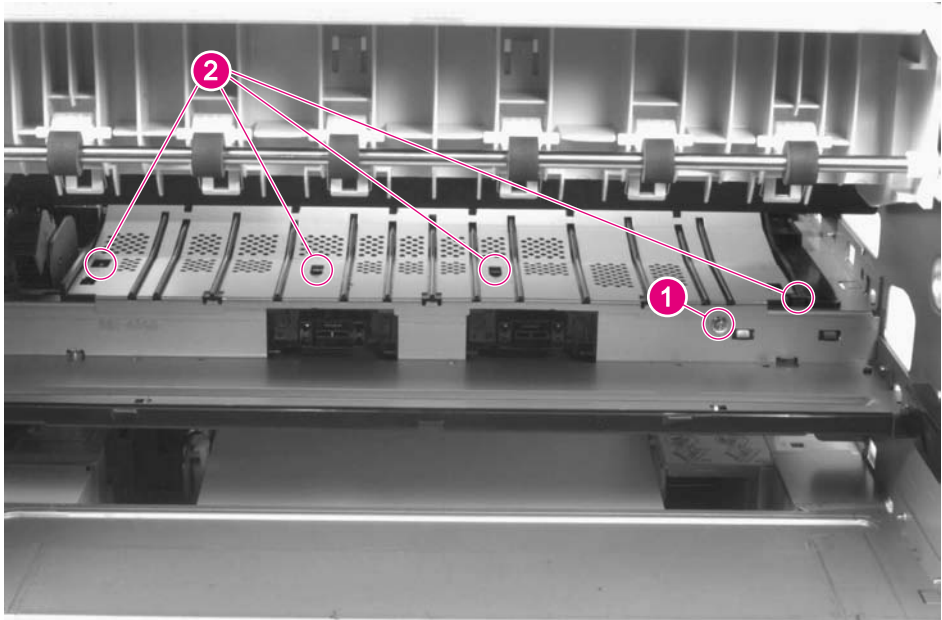

Figure 6-34 Feeder Assembly (2 of 2)
- 8 Remove 1 screw at the back of the Feeder Assembly (figure 6-34).
- 9 Release 4 plastic retaining tabs by moving them in the directions indicated in figure 6-34 while carefully lifting upwards on the Feeder Assembly.